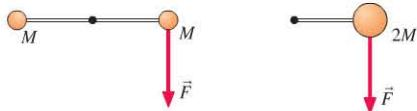

FIGURE P7.30
30. **II** The left part of Figure P7.30 shows a bird's-eye view of two identical balls connected by a light rod that rotates about a vertical axis through its center. The right part shows a ball of twice the mass connected to a light rod of half the length, that rotates about its left end. If equal forces are applied as shown in the figure, which of the two rods will have the greater angular acceleration?